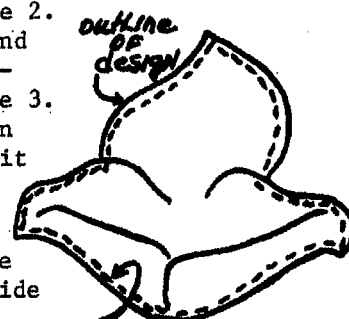
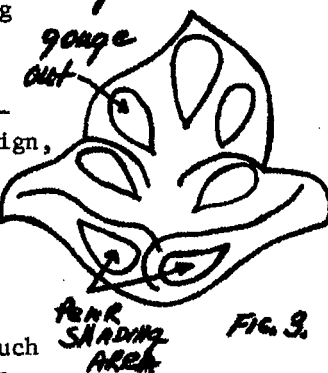

FIG. 2.
FIG. 3.
Step 3. If the plug method is used, the plug must be sculptured to add greater depth to the carving. The plug is cut smaller than the outline of the design, see Figure 2. The plug is cut out and then shaped to the design's contour; Figure 3. When the plug has been shaped sufficiently, it is glued into the cavity.